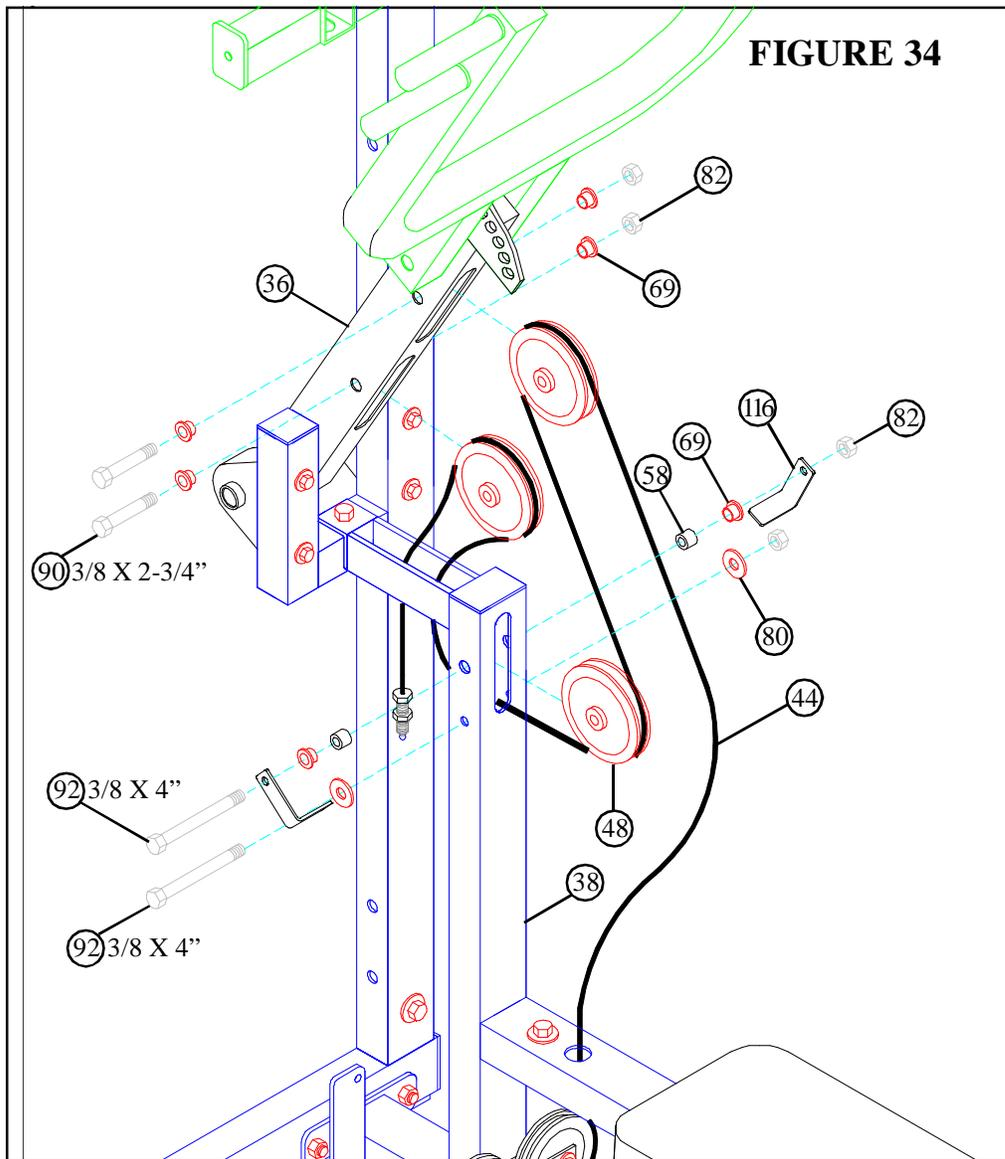

FIGURE 34
- Route the threaded end of the PRESS CABLE (44) around one 4-1/2" PULLEY (48) and **SECURELY** assemble the pulley to the front slot of the PRESS ARM ADJUST (36) using one 3/8 X 2-3/4" BOLT (90), two 3/8" FLANGE SPACERS (69), and one 3/8" LOCK NUT (82) as shown in FIGURE 34. (**NOTE: Loop the cable over the pulley prior to inserting it into the slot.**)
- Route PRESS CABLE (44) through the slot in the PRESS BASE (38) then **SECURELY** assemble one 4-1/2" PULLEY (48) to the PRESS BASE (38) using two 3/8 X 4" BOLTS (92), two 2-7/8 X 2-1/4" CABLE CLIPS (116), two 3/8" FLANGE SPACERS (69), two 3/8 X 1/2" SPACERS (58), two 3/8" WASHERS (80), and two 3/8" LOCK NUTS (82) as shown in FIGURE 34. (**NOTE: Make sure the cable is routed between the pulley and the CABLE RETAINING BOLT.**)
- Route the PRESS CABLE (44) around one 4-1/2" PULLEY (48) and **SECURELY** assemble the pulley to the rear slot of the PRESS ARM ADJUST (36) using one 3/8 X 2-3/4" BOLT (90), two 3/8" FLANGE SPACERS (69), and one 3/8" LOCK NUT (82) as shown in FIGURE 34. (**NOTE: Loop the cable over the pulley prior to inserting it into the slot.**)